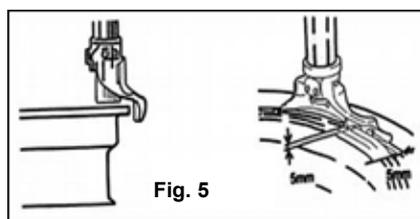

Fig. 5
- Using the handle on the horizontal arm and by pressing down the mounting shaft, the mounting head can be brought into the working position close to the rim (Fig. 5) and locked in place by pressing a button on the handle. During the locking process, the mounting head moves back 1-2 mm so that the rim cannot be damaged if it is positioned exactly.